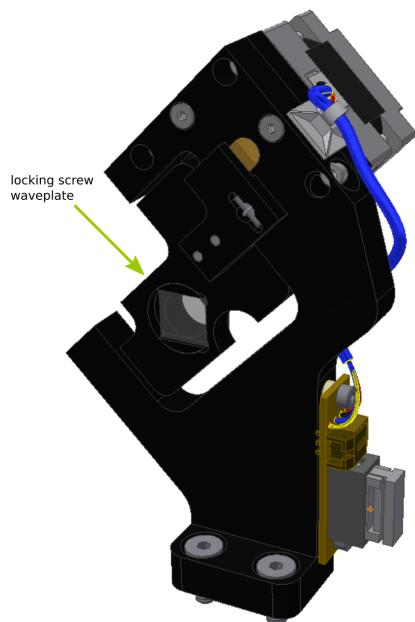

Figure 2.6: Wave plate assembly of the **HarmoniXX THG**. There are no manually adjustable parts.
After passing **DC1**, the beam passes through a wave plate (**WP**) to adjust the polarisation, see Figure 2.6. It rotates the fundamental by  $90^\circ$  without changing the second harmonic polarisation.
- Remove the Waveplate **WP** from the beam path. It is glued into a metallic holder and clamped by a 2 mm locking screw in the mount, see Figure 2.6.